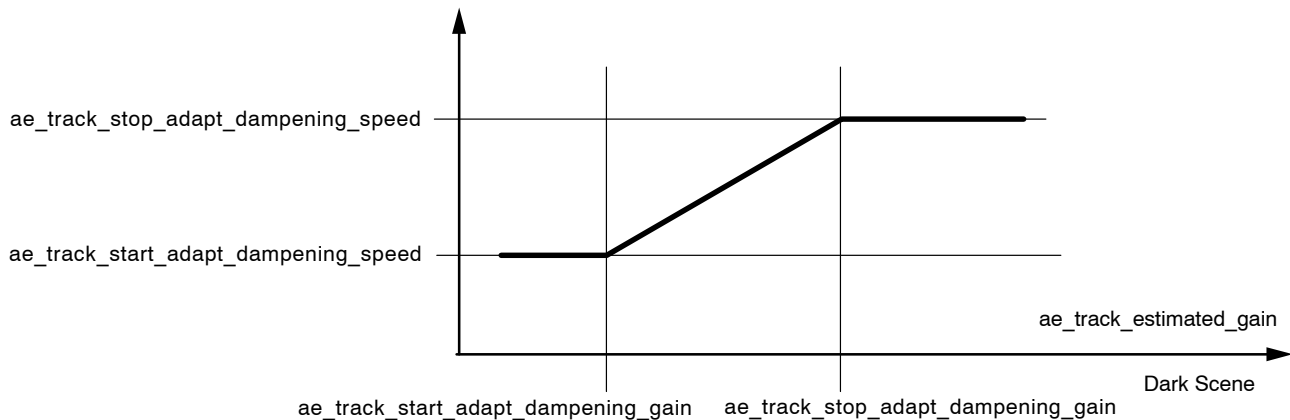

Figure 39. AE Adaptive Dampening Diagram
- When *ae\_track\_start\_adapt\_dampening\_speed* < *ae\_track\_stop\_adapt\_dampening\_speed*, AE adaptive dampening feature is turned on. In this case, *ae\_track\_ae\_dampening\_speed* is updated according to Figure 39.